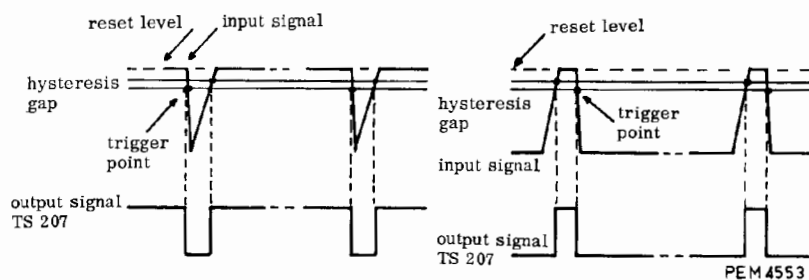

Fig. 9. Working of pulse shaper in the case of triggering (peak value)
- b. "TOP" In this position d.c. restorage of the applied a.c. coupled signal takes place, so that triggering is effected as shown in Fig. 9; on the left for negative-going signals, on the right for positive-going signals (trigger slope negative).